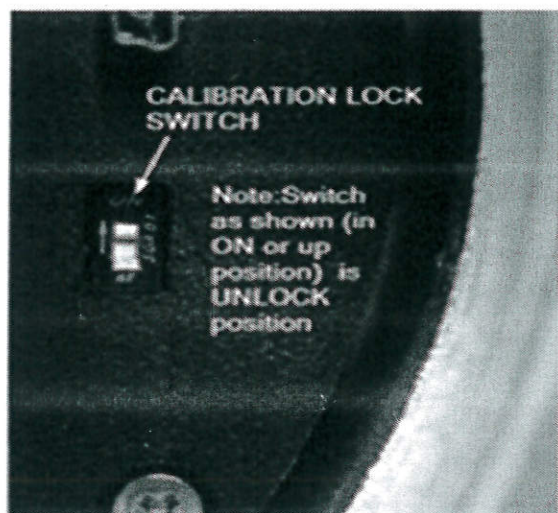

Figure 2-3: Calibration Lock Switch
**Sealing of Software:** Sealing of software is provided by means of a “calibration lock” switch behind the front cover, right of the LCD. When the locks switch is in LOCK position the firmware does not allow any legally relevant parameter to be changed. It also does not allow any firmware to be upgraded over any of the interfaces as shown in figure 2-3.